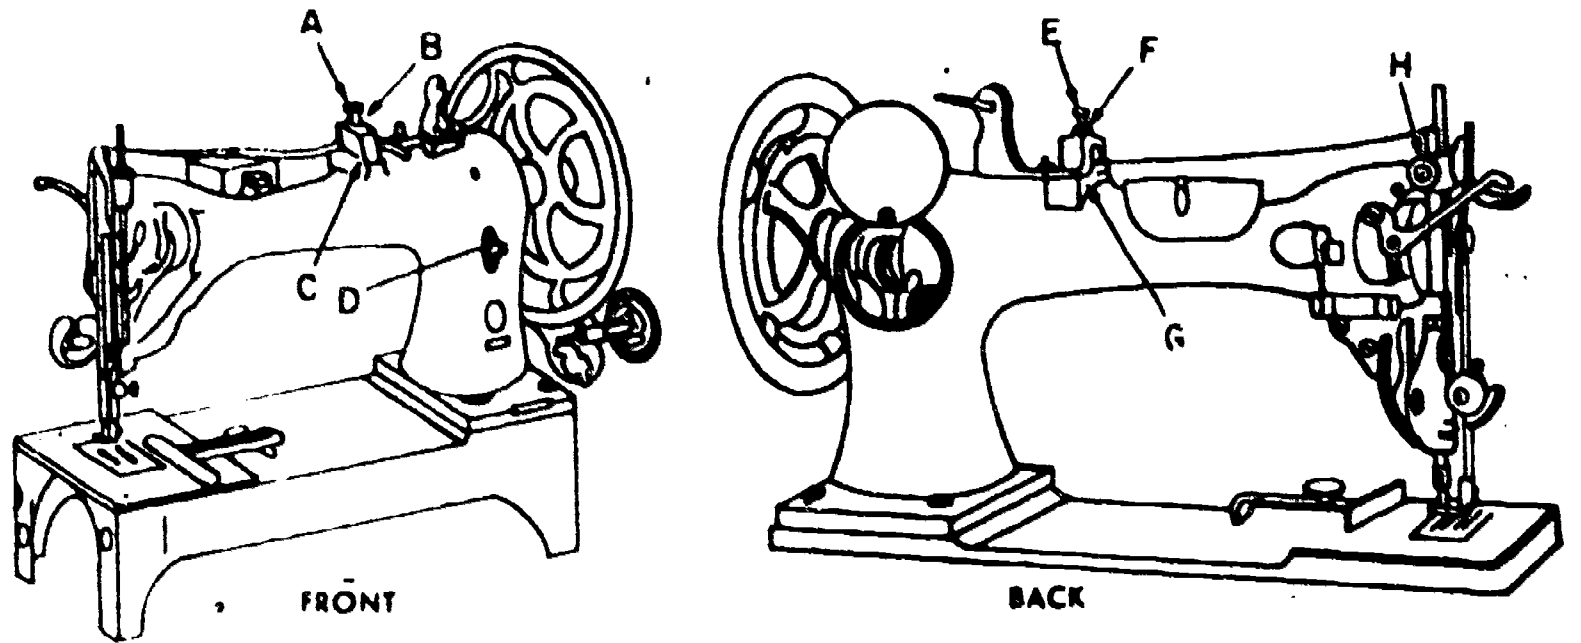

Figure 1. Oiling Points on Class 7 Machines.
2. Apply 1 to 3 drops of light lubricating oil at each oiling point, refer to figure 1.